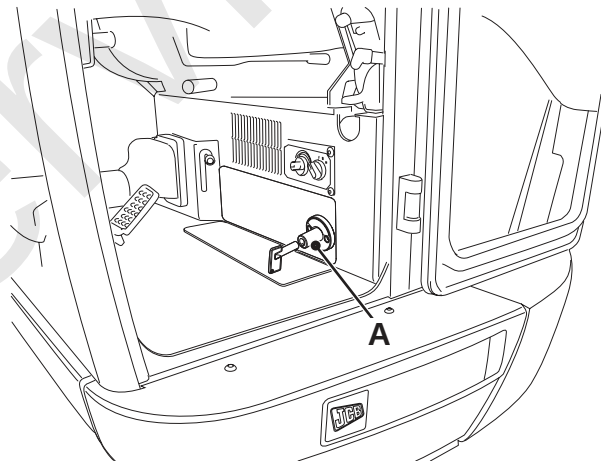

Fig 79.
- 2 Insert the key A, then turn the battery isolation switch to the off position. ⇒ Fig 79. \(□ 216\).